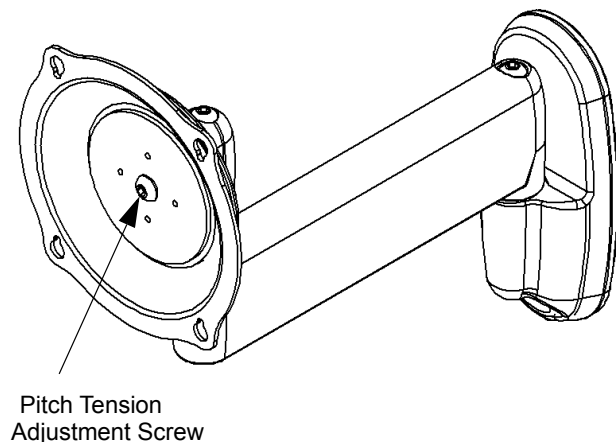

Figure 13: Pitch Adjustment
1. Check adjustment screw on the Centris interface to ensure that the screw is tight (see Figure 13).
2. If needed, use a 3/16" hex wrench (170) to tighten the screw.